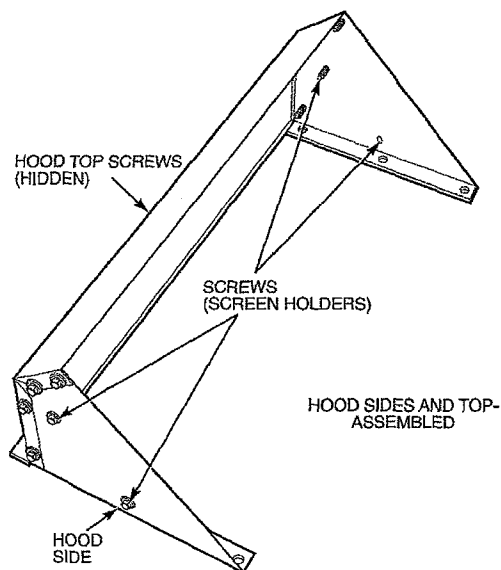
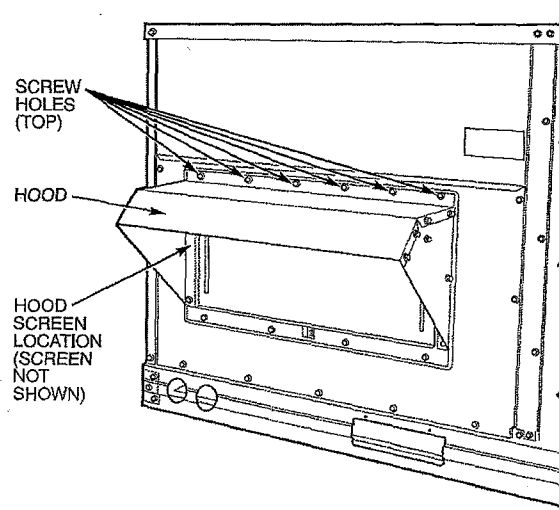

Fig. 18 — Outdoor-Air Hood Details
Fig. 19 — Optional Manual Outdoor-Air Damper with Hood Attached
5. Place hood on front of outdoor-air opening panel. See Fig. 18 for hood details. Secure top of hood with the 6 screws removed in Step 3. See Fig. 19.
7. Align screw holes on hood with screw holes on side of manual outdoor-air damper. See Fig. 18 and 19. Secure hood with 6 screws from Step 6.
9. Remove and save screws currently on sides of hood. Insert screens. Secure screens to hood using the screws. See Fig. 19.